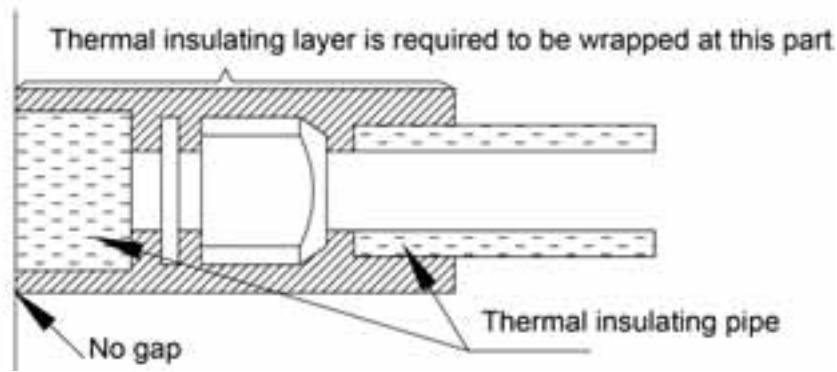

Fig. 20
- 2) Joints of indoor and outdoor unit should be wrapped with insulating material leaving no gap between pipe and wall. See Fig. 20.